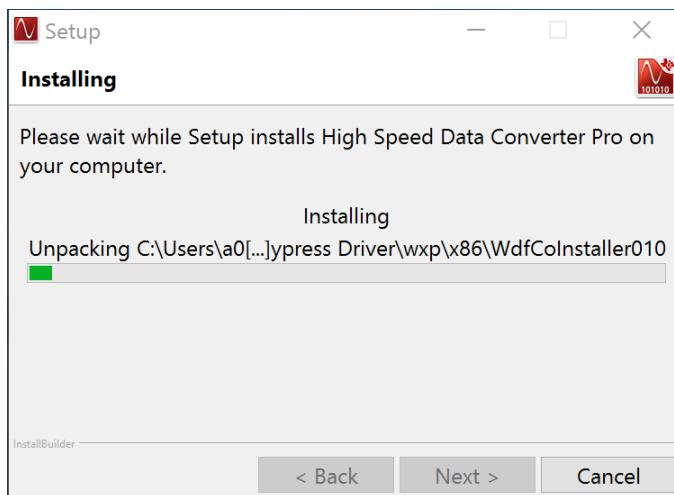

Figure 27. HSDC Pro Install (Cypress Driver Install)
7. The Cypress Driver begins installing as shown in Figure 27.